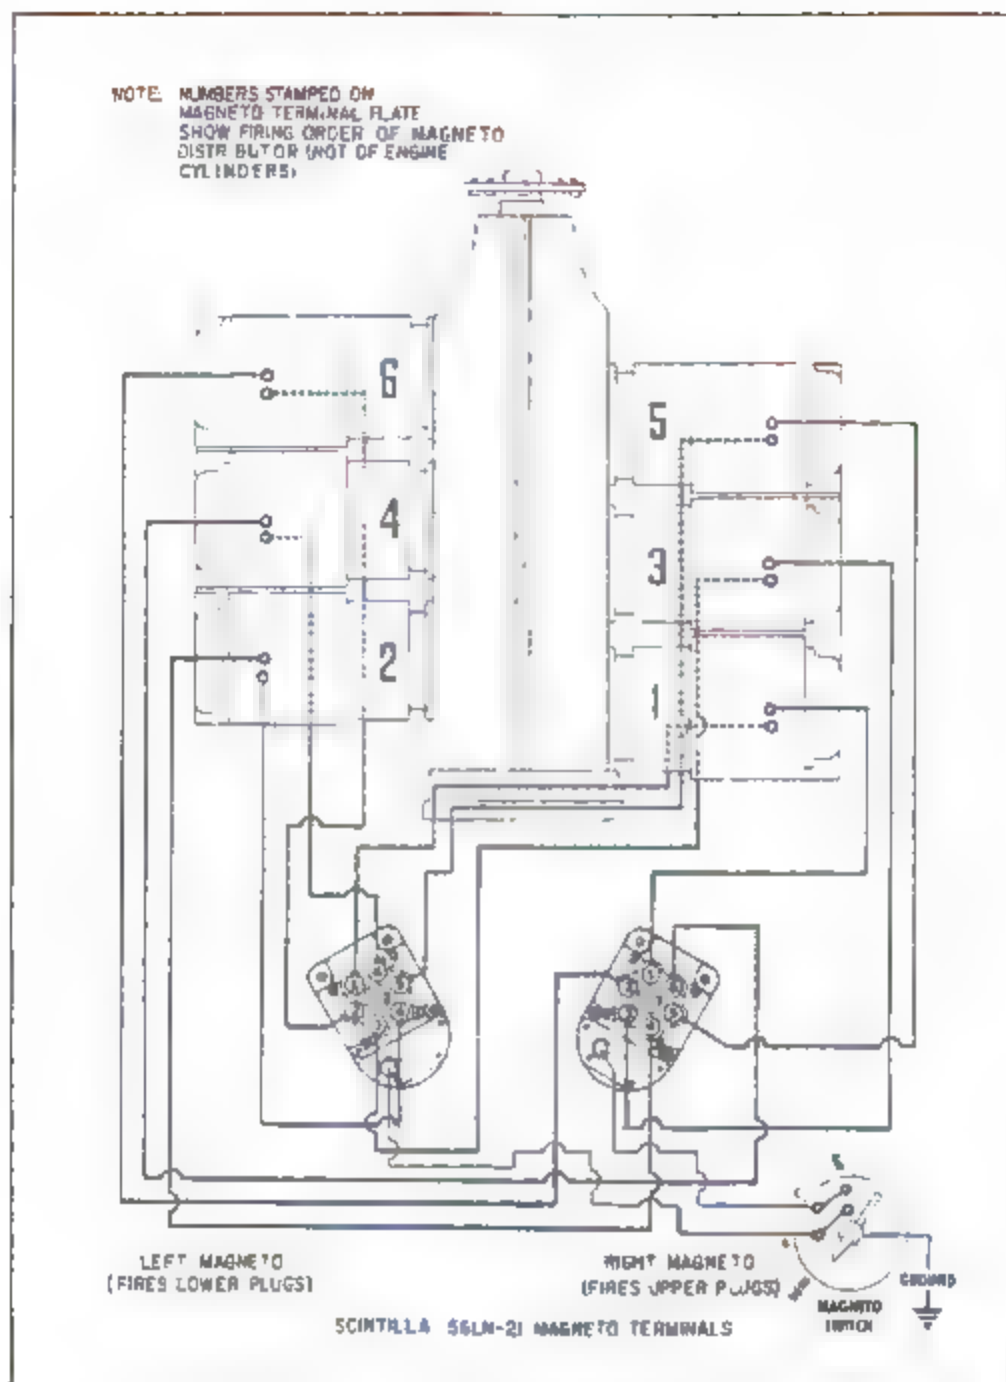

Figure 7-11. Ignition Wiring Diagram
a. Plug both No. 1 cylinder spark plug holes as shown on the ignition wiring diagram (figure 7-11) with the fingers, and turn the crankshaft rapidly clockwise, as seen from the front end, until a suction is felt in the cylinder. No. 1 piston is now on its compression stroke.